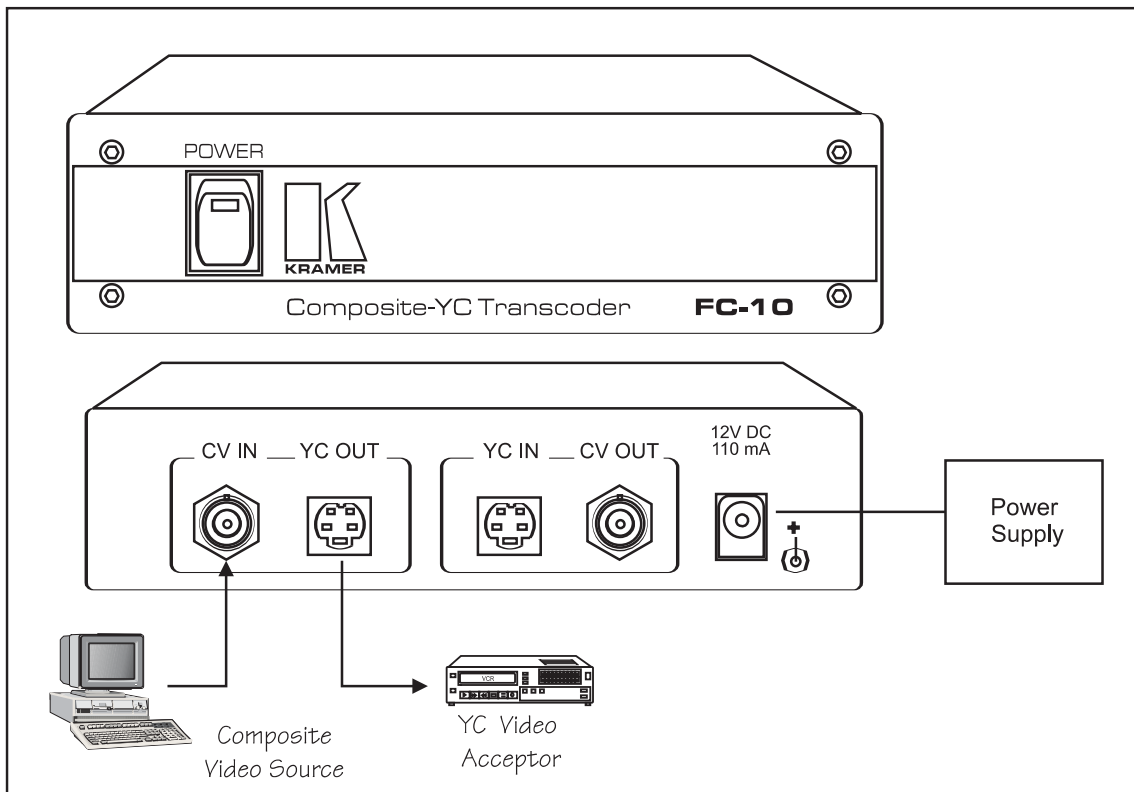

Figure 10: Using PC Graphics in YC Production
Some scan converters, which convert VGA/XGA graphics to video, generate only a composite video signal. The FC-10 converts composite video signal to s-Video (YC), thus enabling usage of computer generated graphics in professional YC productions, as shown in Figure 10. Perform the following steps (as necessary):